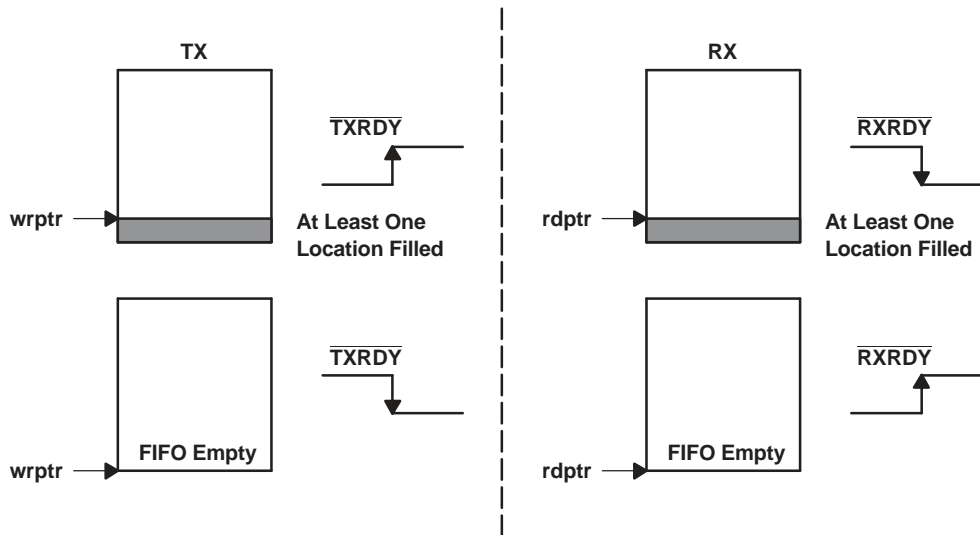

Figure 7.  $\overline{\text{TXRDY}}$  and  $\overline{\text{RXRDY}}$  in DMA Mode 0/FIFO Disable
**Figure 7** shows  $\overline{\text{TXRDY}}$  and  $\overline{\text{RXRDY}}$  in DMA mode0/FIFO disable.